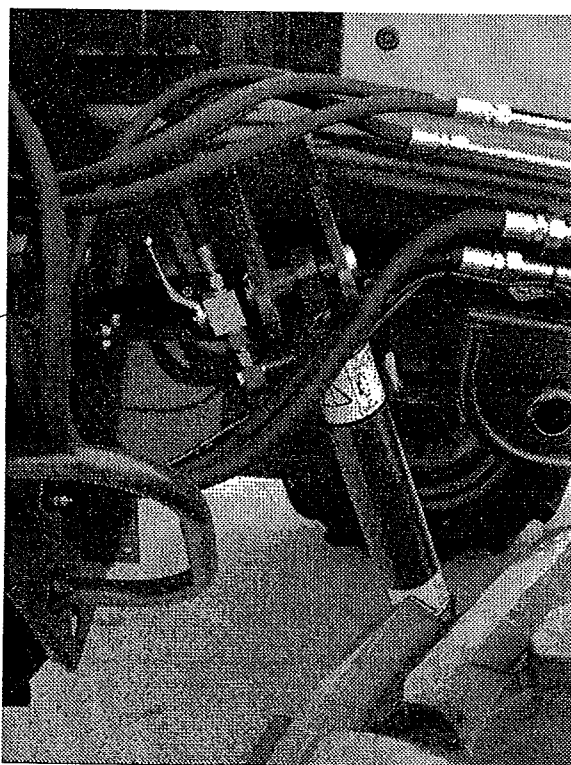

Fig 9.1
- A. Ensure the machine is level laterally, then close the transport lock valve situated near the top of the levelling cylinder (Fig 9.1 item 1).